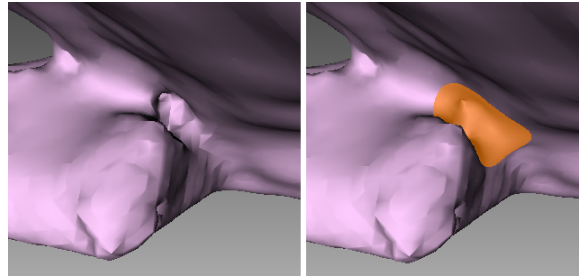

Figure 84: Before smoothing (left) and smoothing out a poorly captured area (right).
6. Hold *LMB* and paint the surface region in order to smooth it. The tool will smooth the affected areas (see *Figure 84*, right).